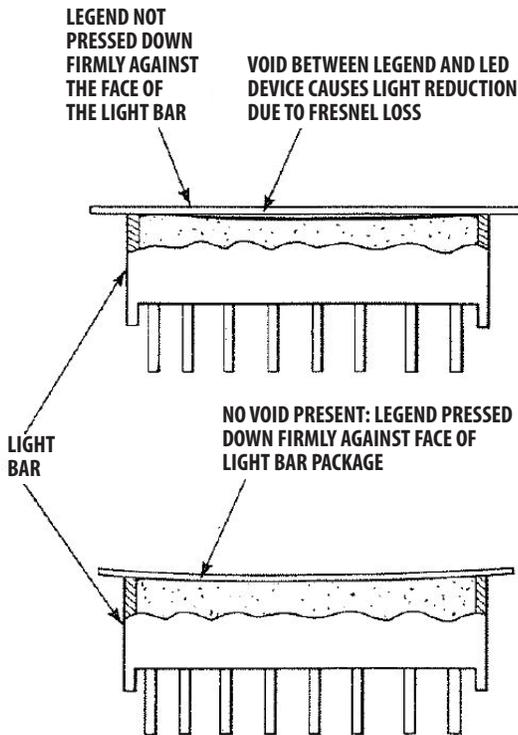

Figure 5. Securely Attached Legend Prevents Reduction of Light Due to Fresnel Loss
2. Remove the release backing. Align the legend to the face of the light bar and apply with firm pressure. It is important to ensure that there are no voids in the adhesive/legend and adhesive/light bar interfaces. Voids in the adhesive interfaces, as illustrated in Figure 5, reduce light transmission through the legend due to Fresnel loss and do not permit a secure bond to take place.